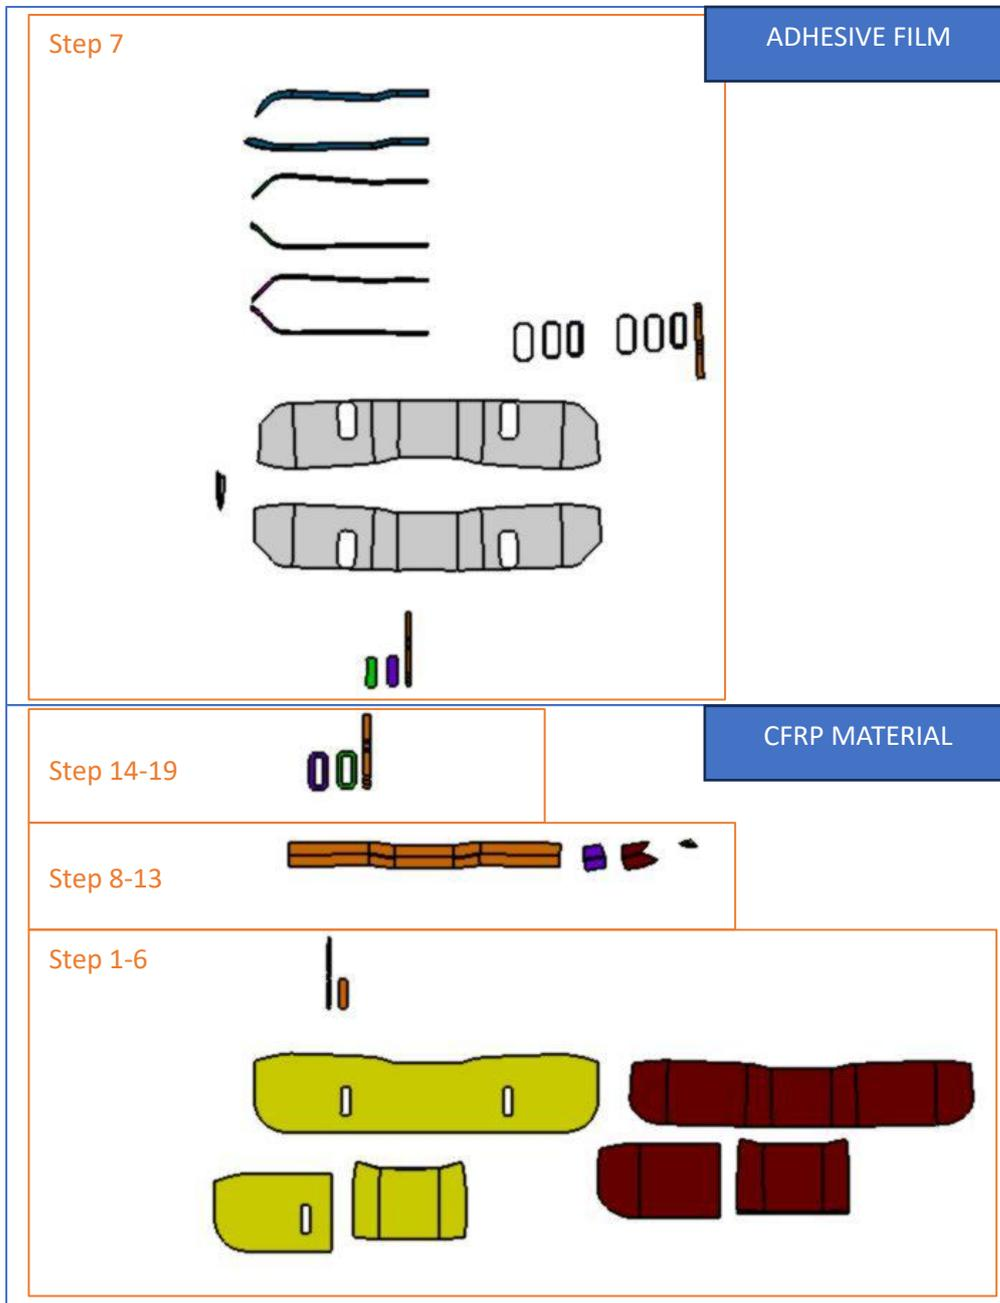

Figure 215
Figure 215 shows an overview of all export geometries and the corresponding materials and steps.
7. According to Chapter E2. Lay-up Sequence and as summarized by Figure 215 we need altogether 19 steps. To add these steps we simply click  on the top right (Figure 222).